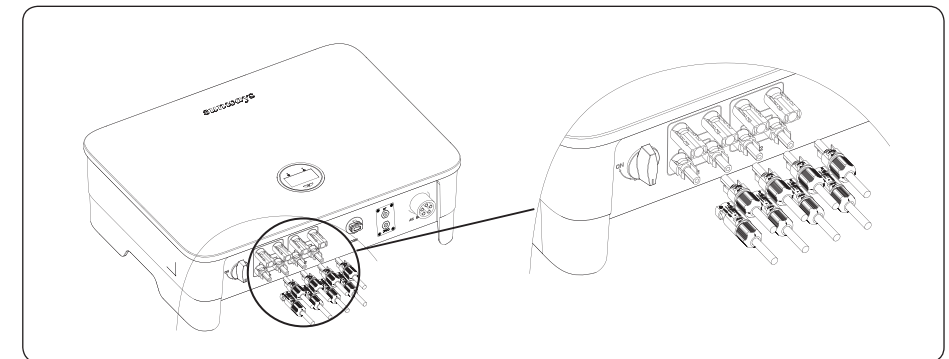

Figure 4-13
7) Insert the positive and negative connectors into the inverter DC input terminals respectively, and a click sound should be heard if the terminals are well connected, as shown in Figure 4-13: